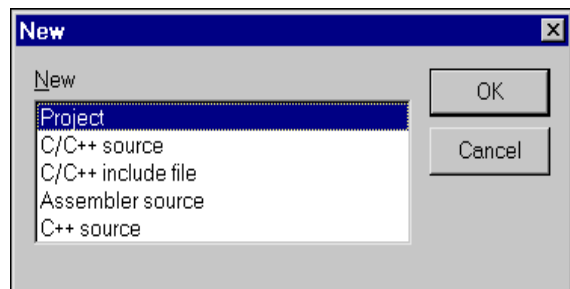

Figure 2-25 The APM New dialog
1. Select **New...** from the **File** menu. The New dialog is displayed (Figure 2-25).